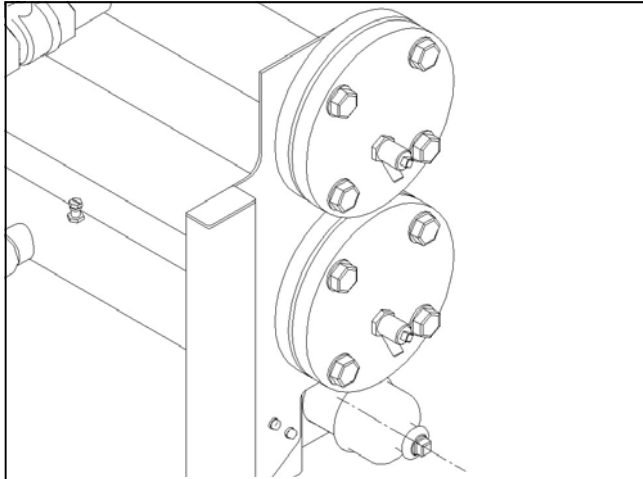

Figure 5.6 Flange Blank, Socket & Plug Assembly
4.5 On the opposite end to the gas supply connection, the reducing socket & R1/2" plug is to be fitted to the gas manifold pipe. **See Figure 5.6.**
5.17 See Figure 5.6. Assemble blanking flanges to the flow & return pipes on the end opposite to which the system flow & return pipe work is to be connected.
5.19 Assemble the reducing socket & plug to the opposite end of the gas pipe to which the supply pipe is connected. Refer To Figure 5.6.